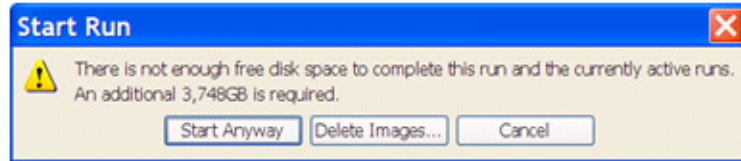

Figure 43 This Start Run dialog appears if there is not enough room to store data for the run.
2. If there is not enough room to store the data, the Start Run dialog appears (see Figure 43). Choose the appropriate option (see Table 6).